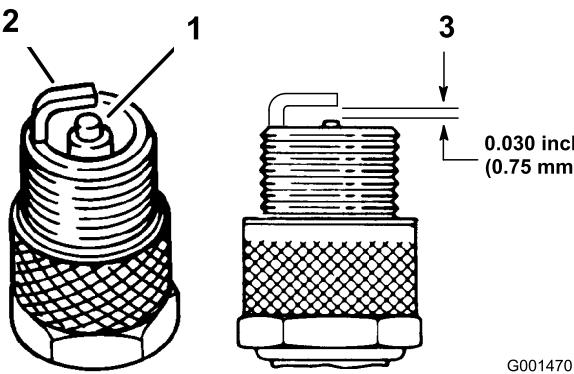

Figure 27
- Look at the center of the spark plugs (Figure 27). If you see light brown or gray on the insulator, the engine is operating properly. A black coating on the insulator usually means that the air cleaner is dirty.
- Check the gap between the center and side electrodes (Figure 27). Bend the side electrode (Figure 27) if the gap is not correct.
- Connect the wires to the spark plugs (Figure 27).